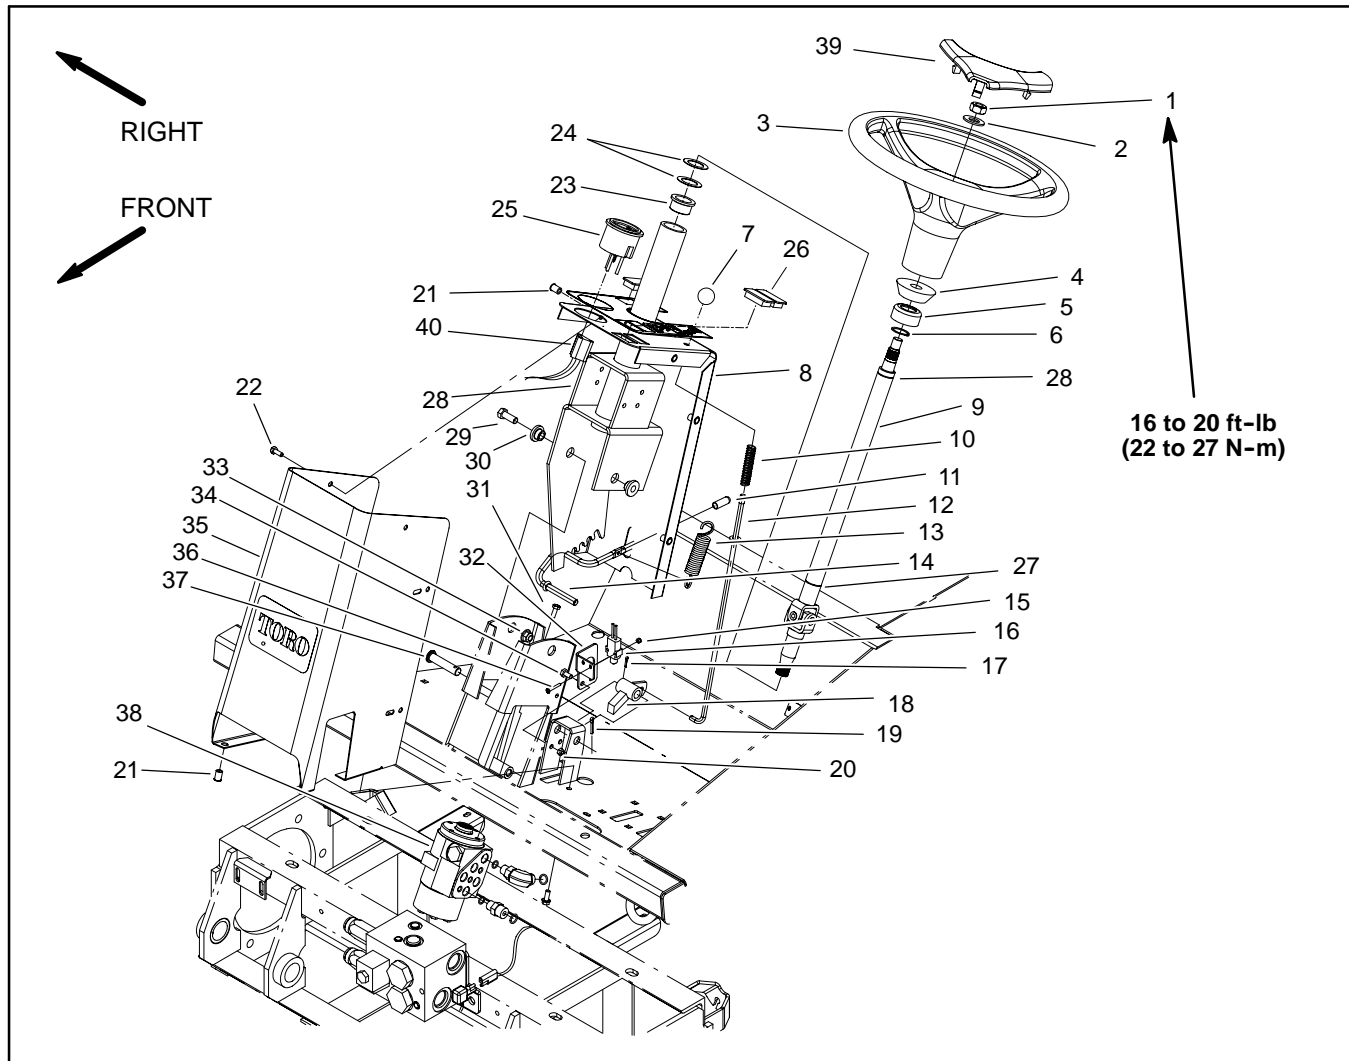

Figure 1
Disassembly (Fig. 1)
2. Disassemble steering tower as needed using Figure 1 as a guide.
Assembly (Fig. 1)
1. Assemble steering tower using Figure 1 as a guide.
- A. Thrust washers (item 24) on steering column are used as needed to remove end play of steering shaft.
- B. If steering wheel was removed, torque hex nut (item 1) from **16 to 20 ft lb (22 to 27 N-m)**.